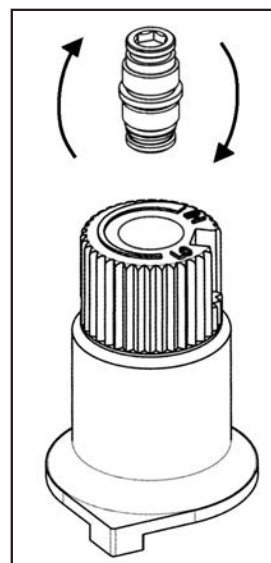

Figure 18: Flip valve screw.
- d) Flip the screw (refer to Figure 18).